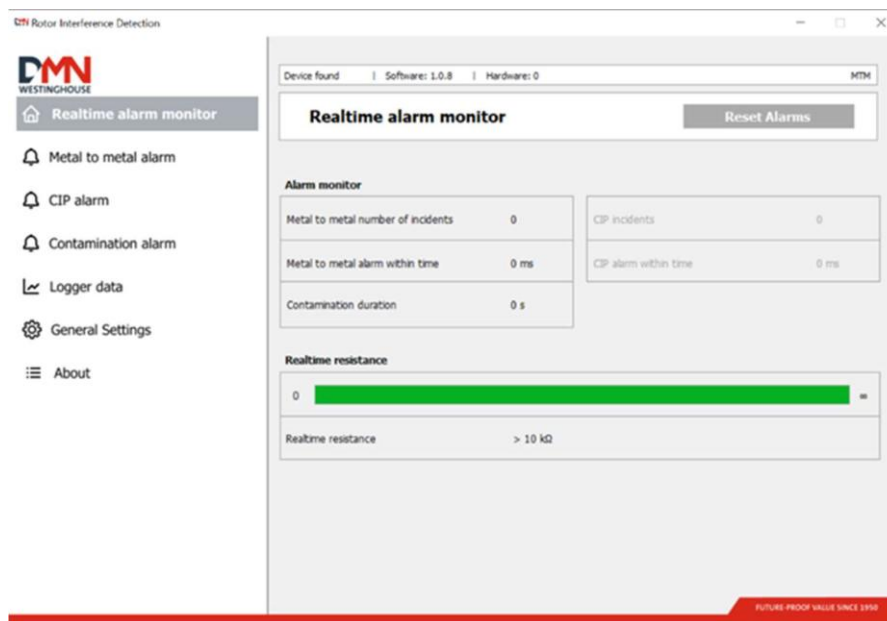

Figure 9 RID Service Tool home screen
4. When the device is successfully connected, "Device found" is shown in the top status bar (see Figure 9).